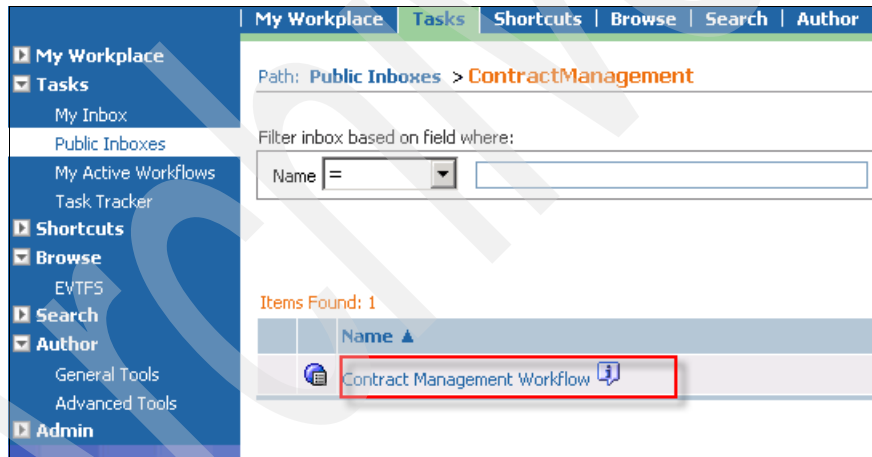

Figure 7-63 Contract Management panel
2. In the Public Inboxes panel, click the **Contract Management Workflow** link to launch the workflow (Figure 7-63).